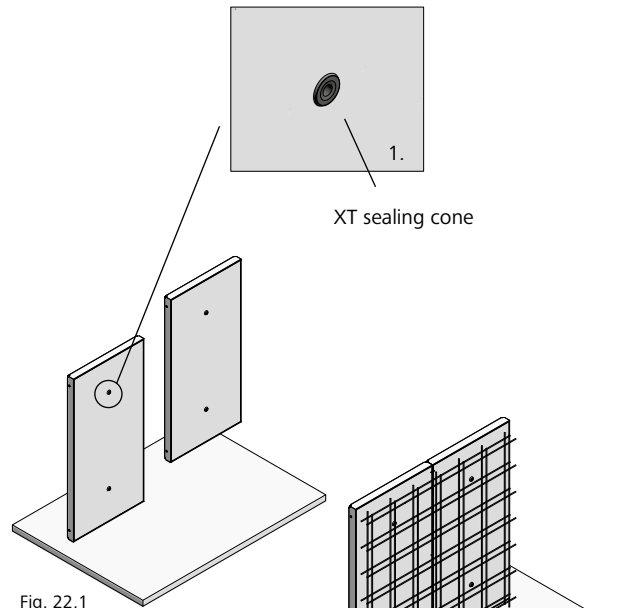
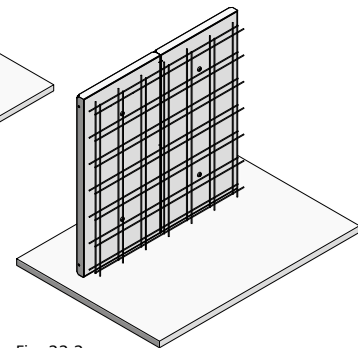

Fig. 22.1
Fig. 22.2
1. Place initial-formwork panel (Fig. 22.1 and ST-XT-5), and carry out boxout work (Fig. 22.2).